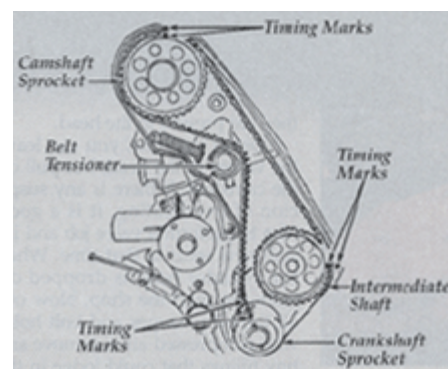

Fig 2. Rotate the crankshaft so the camshaft pulley mark and the crankshaft pulley mark align with the TDC mark on the timing belt cover.
3. Using the center bolt on the crankshaft, rotate the crankshaft so the mark on camshaft pulley aligns with the TDC mark on the timing belt cover, and the crankshaft pulley mark aligns with TDC mark on timing belt cover (see Fig. 2).